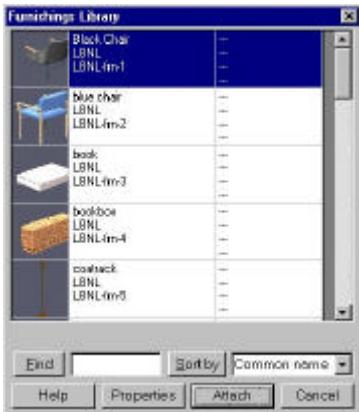

Figure 4. The Furnishings Library dialog box.
31. The “Furnishings Library” dialog box appears (Figure 4). Select the “desk” and click ATTACH